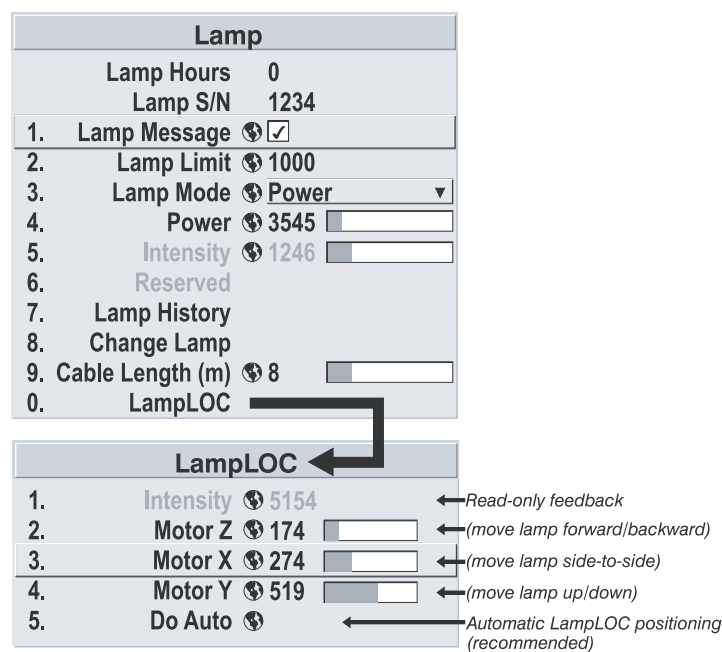

Figure 3-25. Using LampLOC to Align the Lamp
- 3. Select **LampLOC** from the Lamp menu (see Figure 3-25).